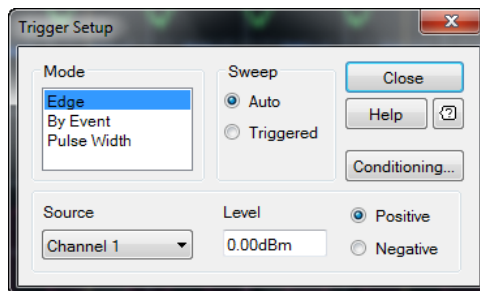

Figure 2-42 Trigger Setup dialog
- 2 The Trigger Setup dialog is displayed as shown in Figure 2-42.